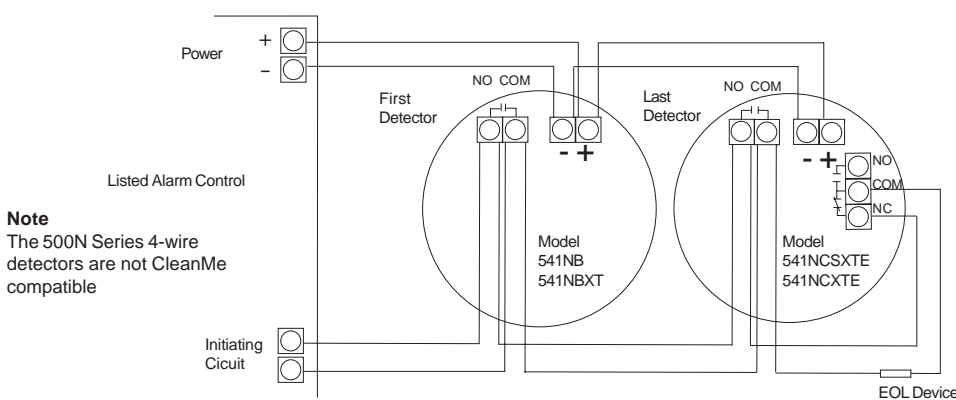

Figure 5. Wiring diagrams
The 500N Series 2-wire detectors enable the CleanMe function by recognizing voltage polarity at installation. If the + and - terminal connections are reversed, the CleanMe function is enabled. New 500N Series detectors are compatible on the same loop with previous 500 Series detectors if proper wiring is observed. See Figure 5.
5. Strip the system wires and connect them to the appropriate terminals on the detector. See Figure 5.